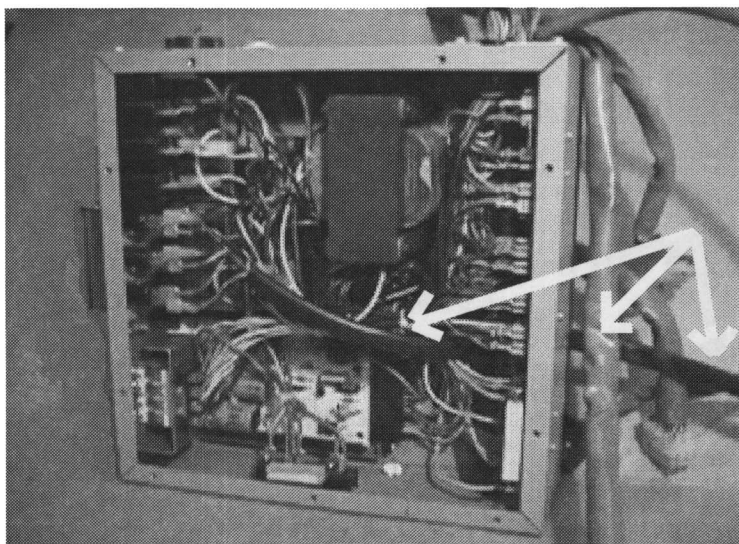

Figure 8
- C. Run the harness through the Power Control Center so that it comes out through the back of the unit (Figure 8).